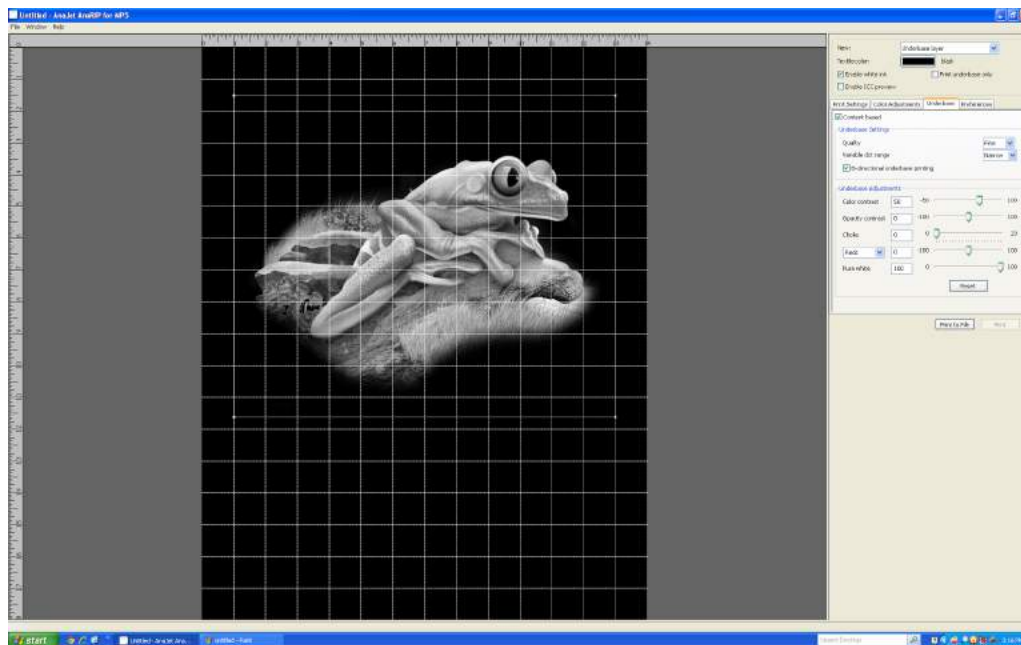

Figure 6.5: View After Enabling White Ink
- When you enable white ink three things will happen. First the background will switch to black, unless you have a different Preview Color selected, secondly the Underbase Tab will be brought up and thirdly the view will change to Underbase. (Figure 6.5)